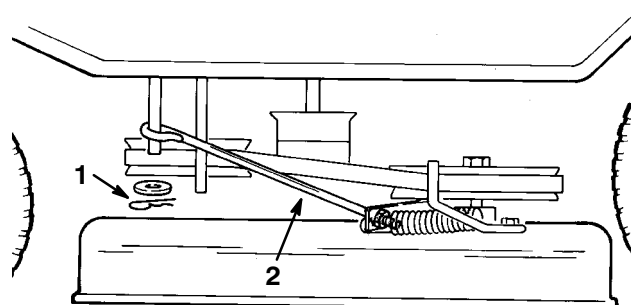

Figure 39
6. Remove the hair pin cotter and washer from the blade control arm on the left side of the mower (Fig. 39). Slide the rod off the arm.